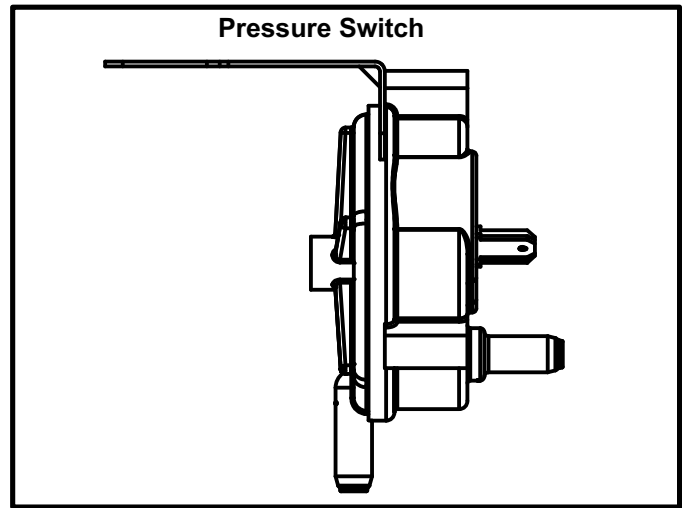

FIGURE 16
9. Combustion Air Pressure Switch (Figure 16)